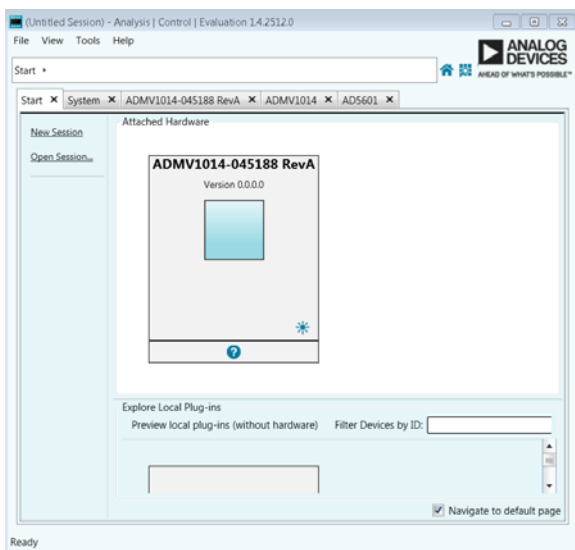

Figure 11. Attached Hardware Section when the **ADMV1014-045188 RevA** (ADMV1014-EVALZ) is Connected
4. Open the **ACE** software. The **ADMV1014-045188 RevA** (ADMV1014-EVALZ) appears in the **Attached Hardware** section (see Figure 11). Double-click the evaluation board plugin.